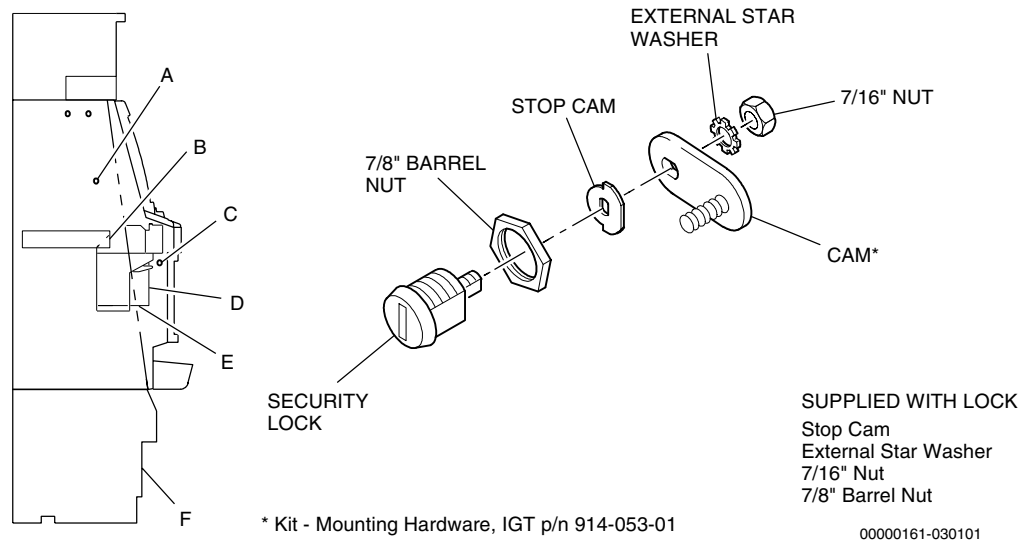

Figure 2-21. Lock Specifications – Game King Plus 19" Upright
- Lock Specifications – Figure 2-21 and Table 2-19